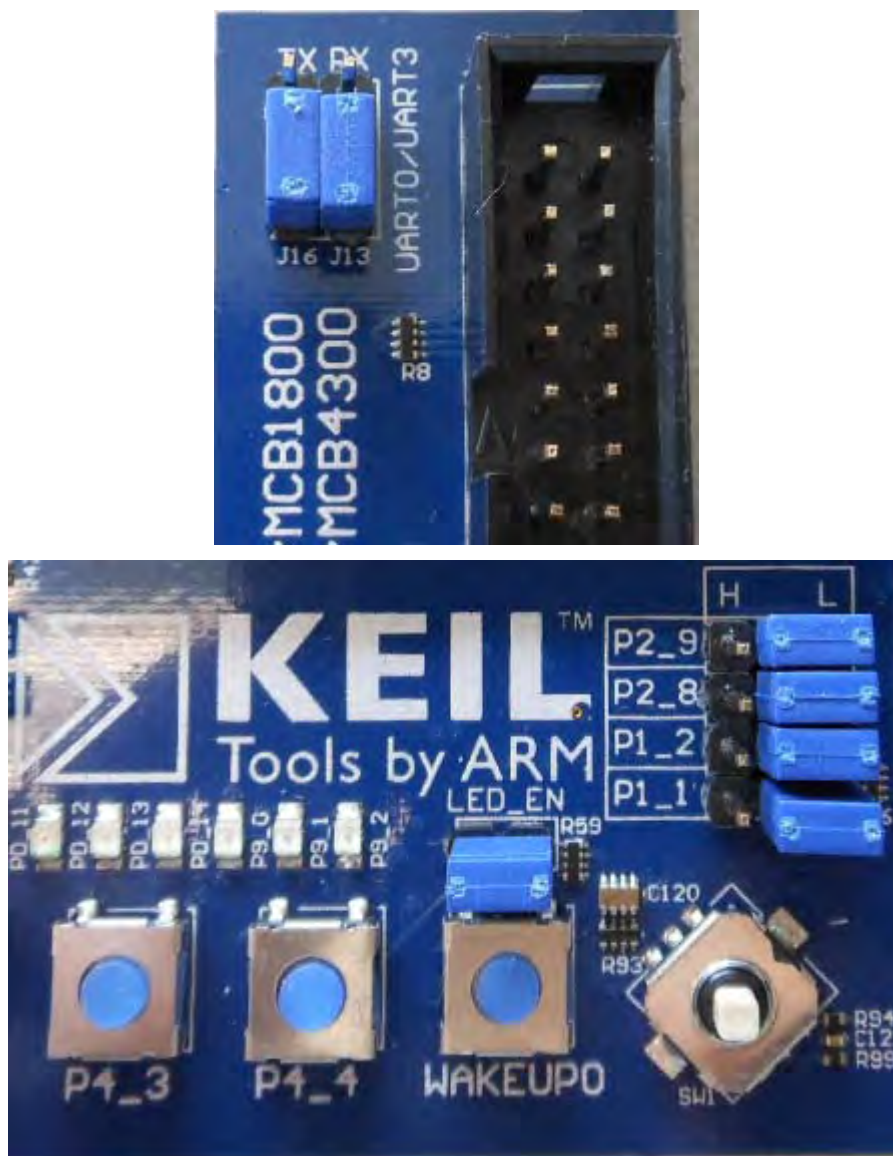

Fig 6. Jumper settings for MCB4300
- First, check the jumper settings of the board and make sure the position of jumpers J13 and J16 are set for UART0 as shown in Fig 6 (Top). Boot pins P1_1, P1_2, P2_9 and P2_9 are held low, as shown in Fig 6 (Bottom), so that it can boot from internal flash on RESET after programming. Also, J17 should be open to manually enter ISP mode using the ISP button.